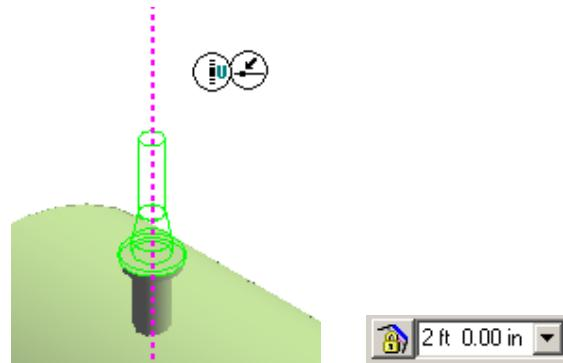

Figure 19: Routing Pipe in the Vertical Direction
9. Position the cursor on top of the pipe. SmartSketch will display a **U** glyph. This glyph depicts that you are going in Up-Down plane, as shown in Figure 19.